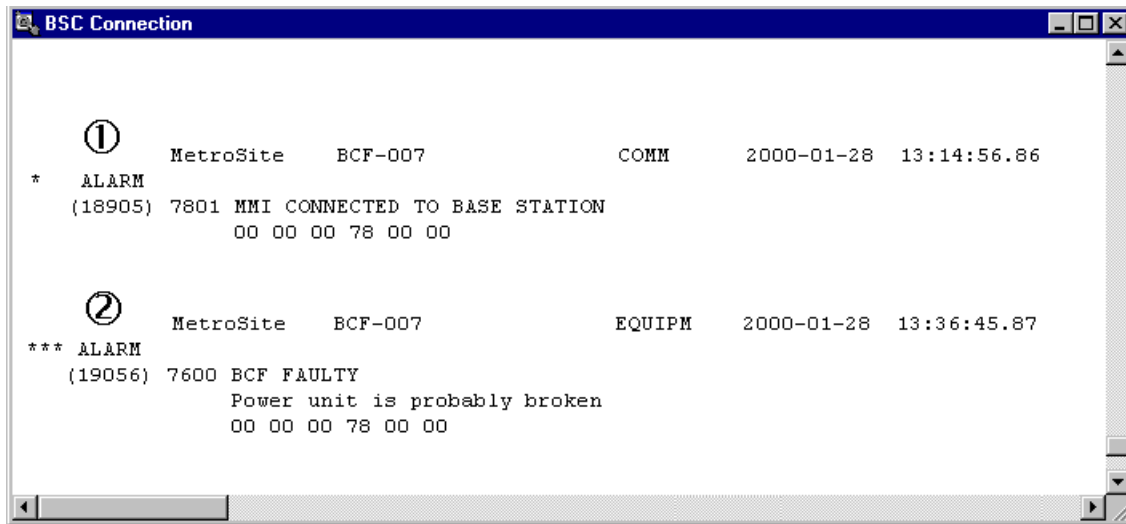

Figure 1. Example 1, active alarms as seen at the BSC
- Figure 1. Example 1, active alarms as seen at the BSC **12**